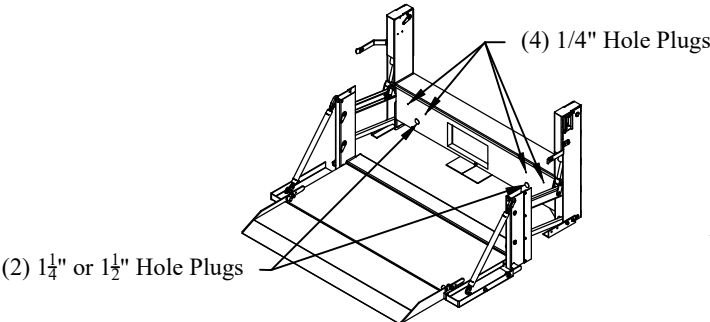

Figure 4: Plugged Mounting Holes
- 4. **Remove** two (2) $\frac{1}{4}$ " or $\frac{1}{2}$ " hole plugs and four (4) $\frac{1}{4}$ " hole plugs from access holes (Figure 4).
1. **Pull** one 3-prong tail light plug and one 2-prong tail light plug through each 1 $\frac{1}{4}$ " or 1 $\frac{1}{2}$ " front access hole (Figure 4).
- Note: Step 2 may be skipped if the front access holes are 1 $\frac{1}{2}$ " holes (Figure 4).
4. **Secure** the 1 $\frac{1}{4}$ " grommets or 1 $\frac{1}{2}$ " bushings inside the 1 $\frac{1}{4}$ " or 1 $\frac{1}{2}$ " front access holes (Figure 4).